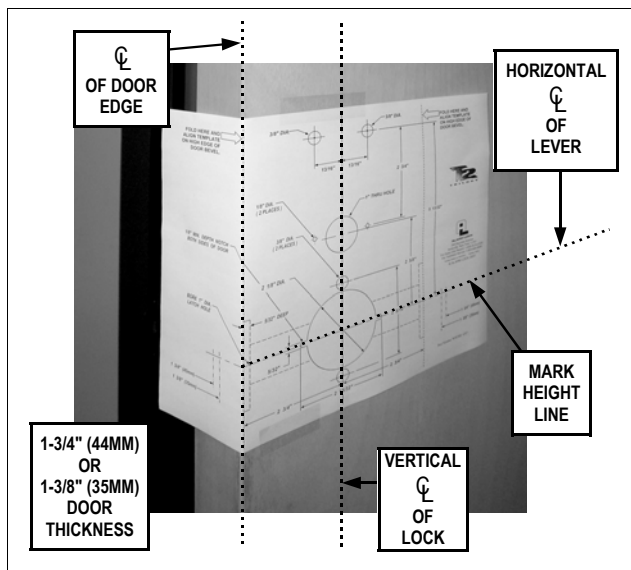

FIG. 1: FOLD AND PLACE TEMPLATE ON DOOR
1. Fold and place template on high edge of door at the recommended height from floor. See Fig. 1.